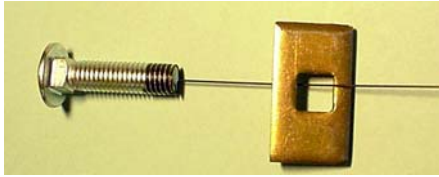
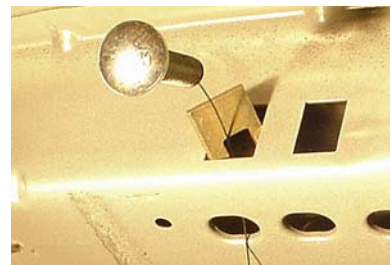

FIG 1
FIG 2 EXAMPLE: SEE NOTE 5
5. Insert pull wire up thru forward drilled hole on frame and out thru access hole - thread 3/8" carriage bolt with bolt plate onto 3/8" pull wire (Fig 1) - feed bolt plate into frame (Fig 2) then pull 3/8" carriage bolt into place - repeat for opposite side.